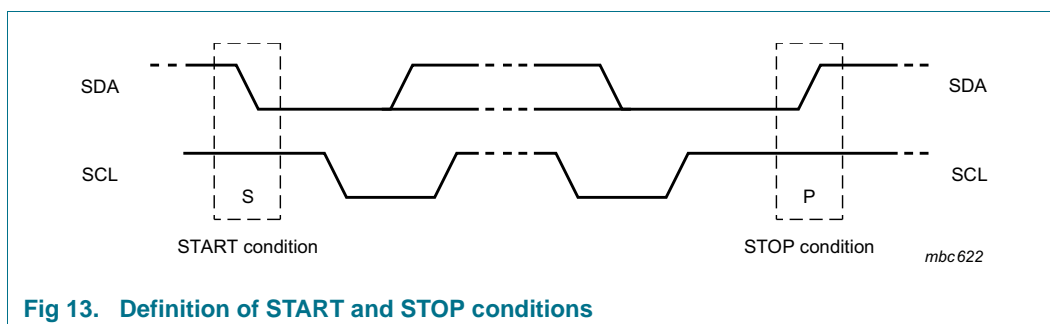

Fig 13. Definition of START and STOP conditions
Both data and clock lines remain HIGH when the bus is not busy. A HIGH-to-LOW transition of the data line, while the clock is HIGH, is defined as the START condition (S). A LOW-to-HIGH transition of the data line, while the clock is HIGH, is defined as the STOP condition (P); see Figure 13.